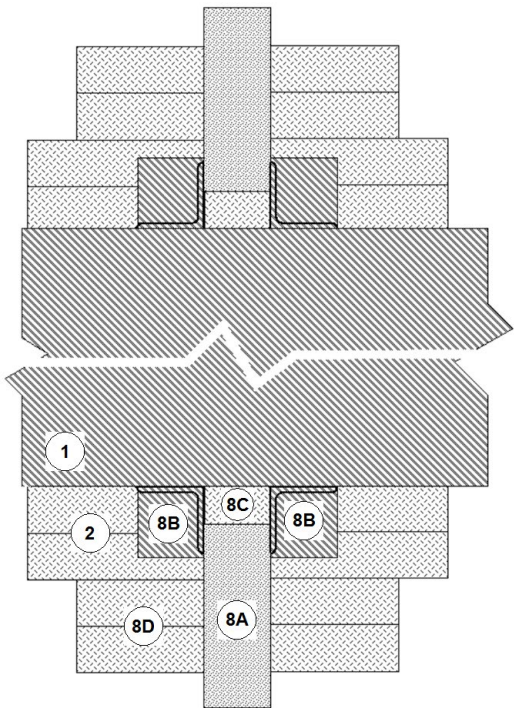

Figure 12. Wall Firestop
8. WALL PENETRATION FIRESTOP: When required to penetrate a fire-rated wall assembly, install the firestop system described in Items 8A to 8D (Reference Figure 12).